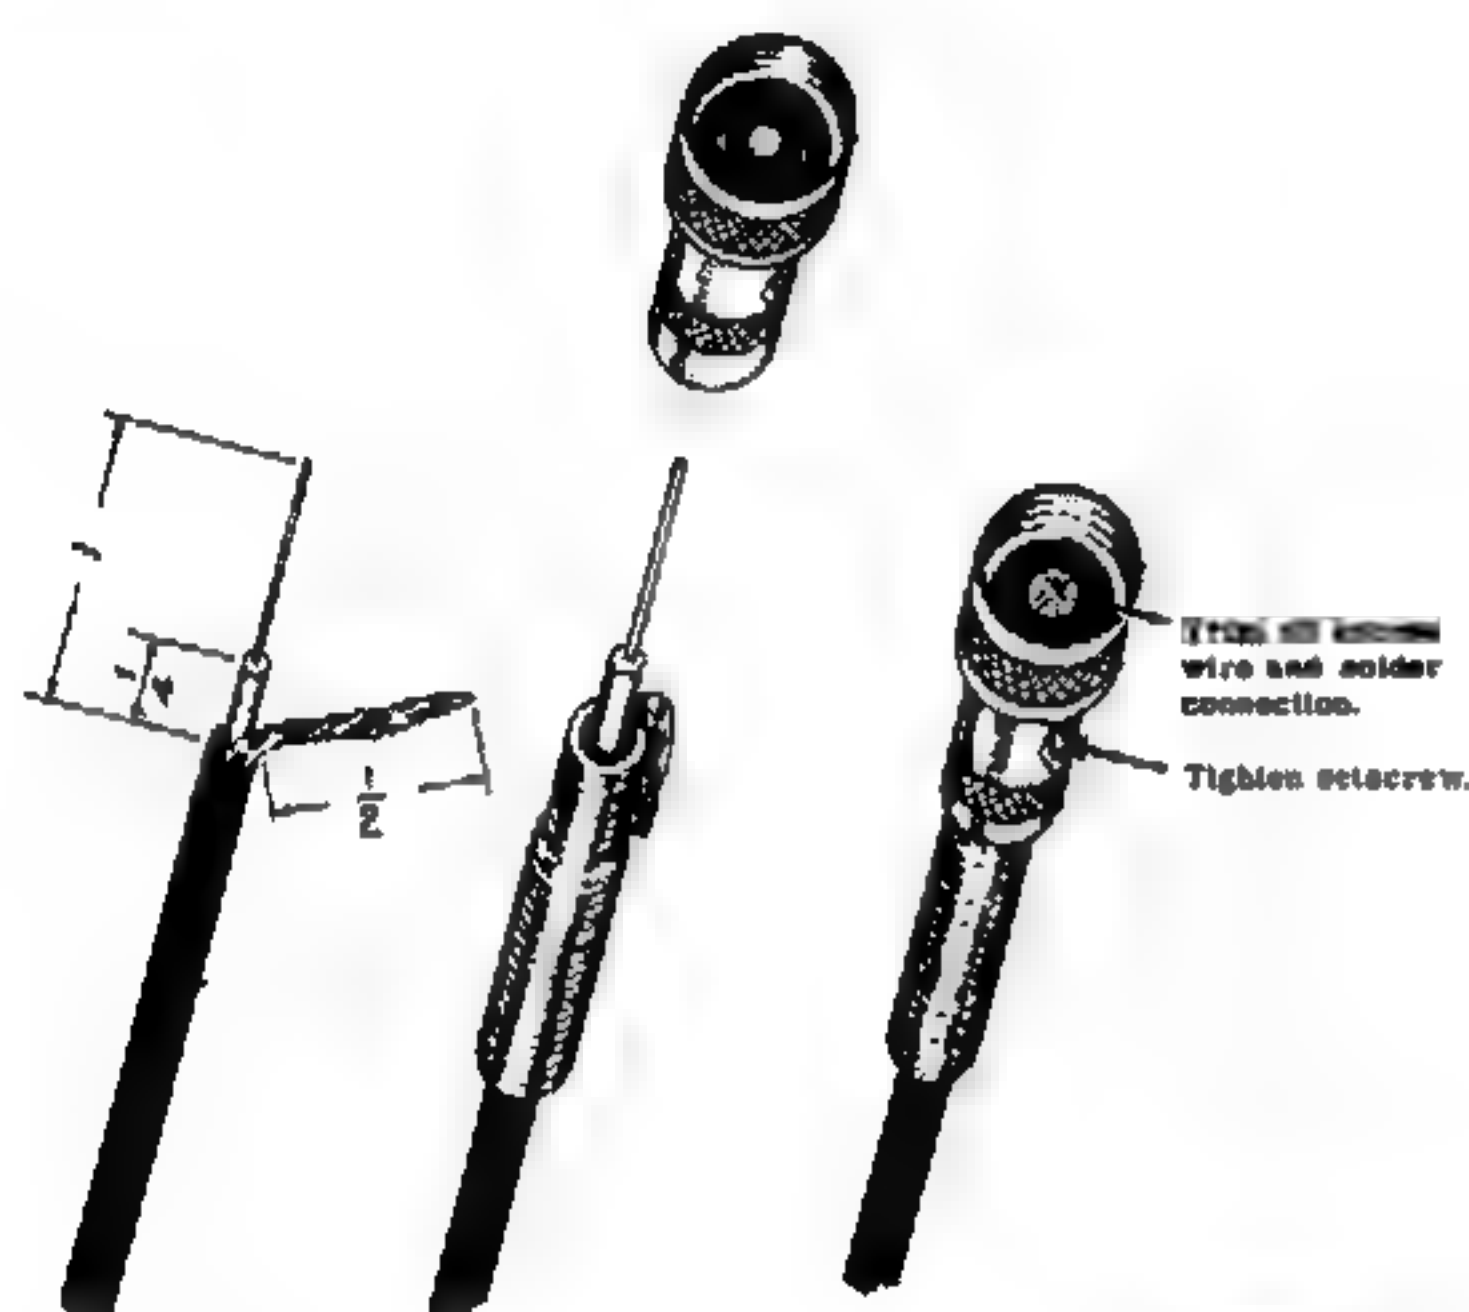

Figure 1
- (✓) Using Figure 1, install the microphone connector (#432-1) on the microphone cable.